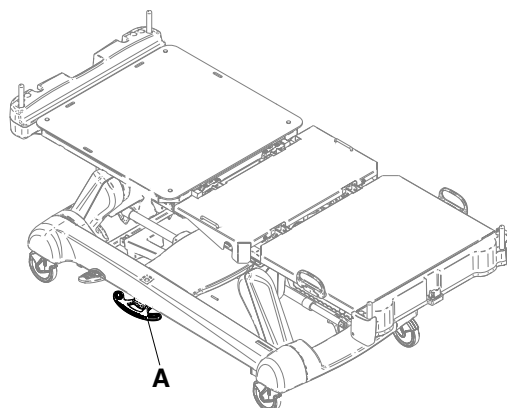

Figure 6: Flipped manual brake pedal
1. Flip down the brake pedal (A) (Figure 6 on page 25).